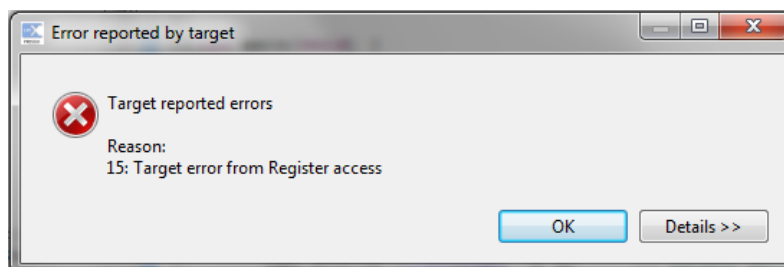

Figure 13 – LPCXpresso IDE Error Message
- When starting a newly downloaded application, the debugger will lose connection with the processor. An error message like illustrated in Figure 13 is typical in this case. The program starts off in *active* mode but as soon as *deep sleep*, *power down* or *deep power down* is entered an error message like below will be displayed. The problem is that it becomes impossible to debug the processor after this point. It is not possible to set break point or stop the processor. It is also not possible to read variable values to help debug the application.
- 2) Download and start application (**LCD\_ADC\_temp\_wdt-wakeup**). Wait for error message as in Figure 13. That is an indication that the LPC11U37 has entered *power down* mode.